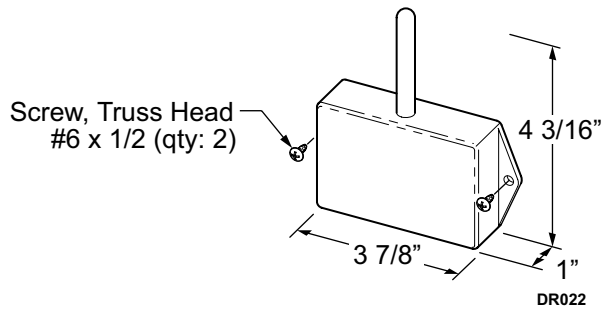

Figure 6. Mounting the RF Receiver.
- 1.4 The clearance dimensions for the receiver are shown in Figure 6 on page 7.